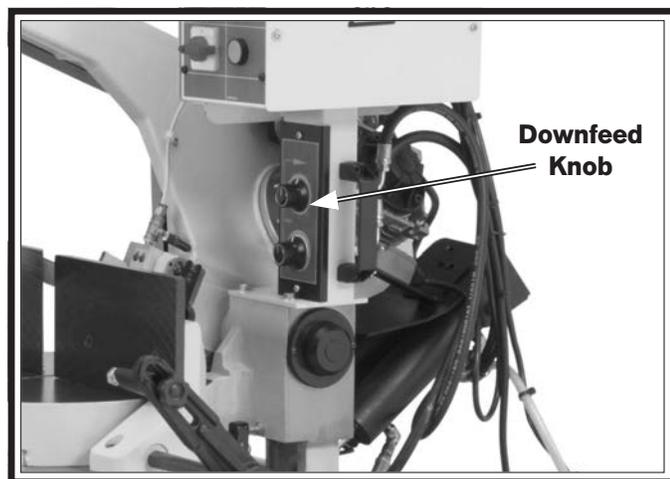

Figure 12. Downfeed valve location.
3. Open the downfeed knob (see **Figure 12**) and allow the headstock to travel all the way down. If the blade contacts the machine base, adjust the downfeed stop bolt as described in **Downfeed Stop Bolt**, on **Page 38**.